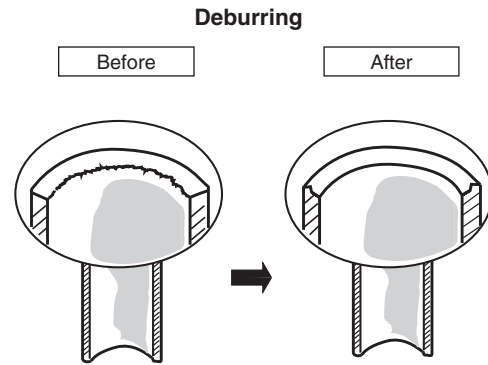

Fig. 5-1
- (1) Cut the copper tube to the required length with a tube cutter. It is recommended to cut approx. 1 – 2 ft. (30 - 50 cm) longer than the tubing length you estimate.
- (2) Remove burrs at the end of the copper tube with a tube reamer or a similar tool. This process is important and should be done carefully to make a good flare. (Fig. 5-1)